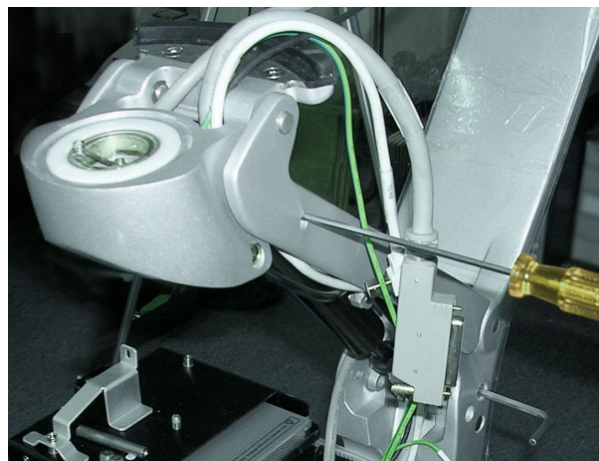

Figure 8-113 Supporting the Upper Gas Spring Bracket with a Screwdriver
- 5.) Similarly, tap out the upper gas spring securing pin and use a screwdriver to support the joint - Figure 8-113.